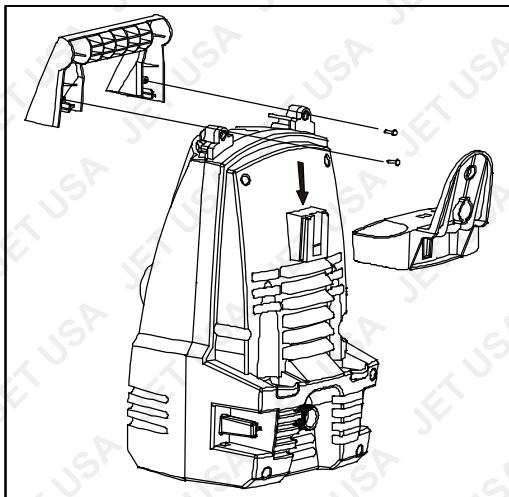

Figure 1a
- Insert cable hook hold into the machine (figure 1a).